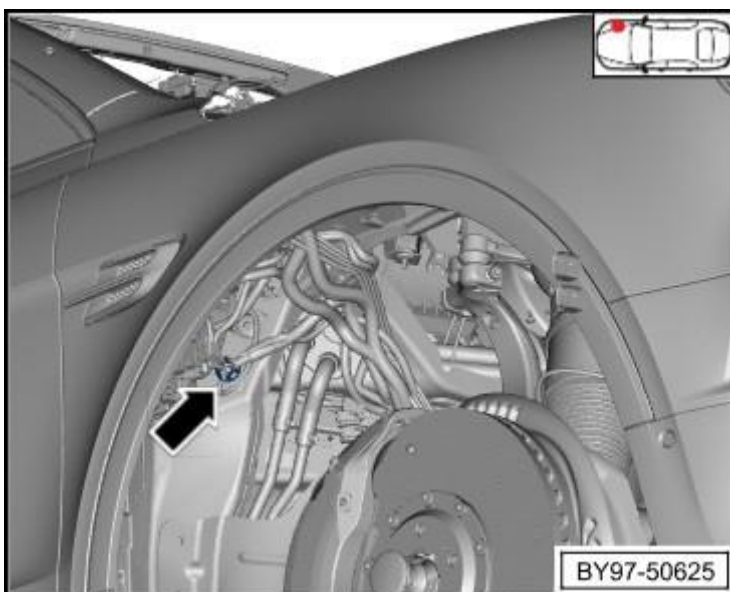

Figure 2
- Referring Figure 2 and Repair manual wiring diagrams locate earth point number 13